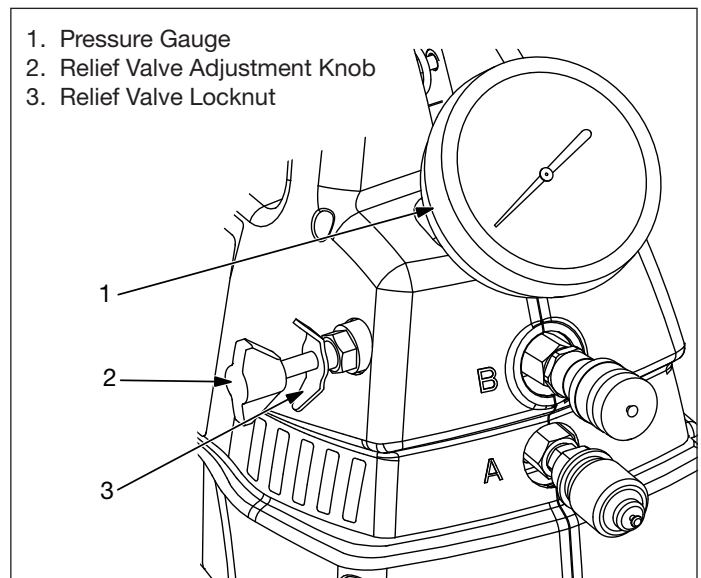

Figure 7, Relief Valve Adjustment
4. Loosen the relief valve locknut and turn the relief valve adjustment knob counterclockwise until there is a light drag when turning. See Figure 7.
2. Loosen the relief valve locknut and turn the relief valve adjustment knob counterclockwise until there is a light drag when turning. Refer to Figure 7.